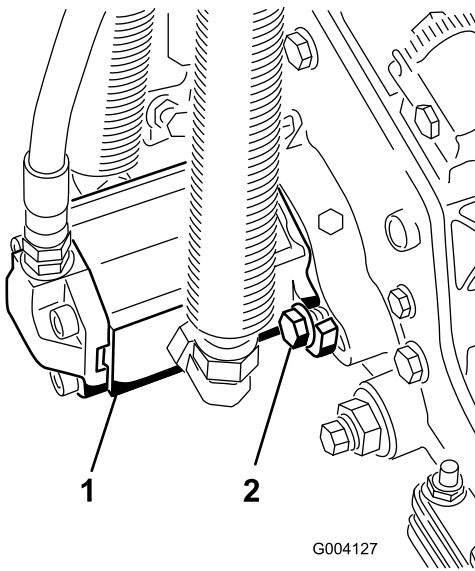

**Figure 12**
12. Secure the lift arm chain to the chain bracket with the snapper pin (Figure 12). Use the number of chain links described in the cutting unit *Operator's Manual*.